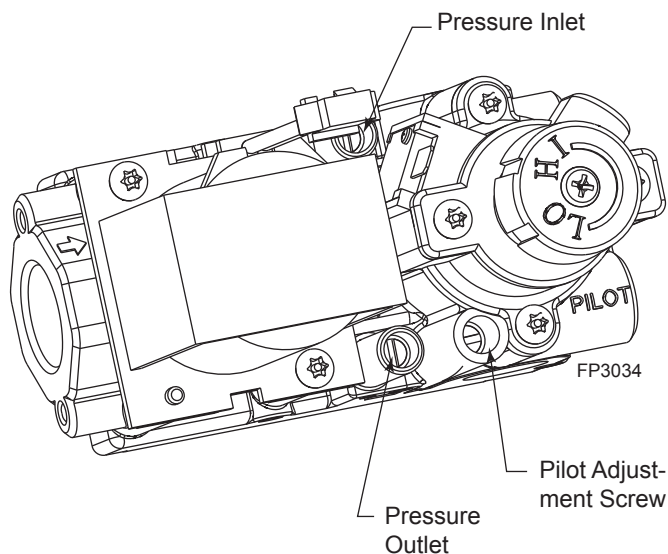

Figure 21. IPI Valve
4. To check gas pressures at valve, turn captured screw counter clockwise 2 or 3 turns and then place tubing to pressure gauge over test point. Turn unit to high. Figure 21. After taking pressure reading, be sure and turn captured screw clockwise firmly to reseal. Do not over torque. Check test points for gas leaks.